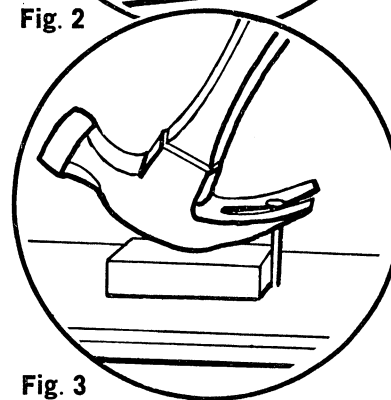

Fig. 3
- To remove a nail use claw end of hammer. Place a small block of wood under the head of the hammer to avoid marking the wood. (Fig. 3)